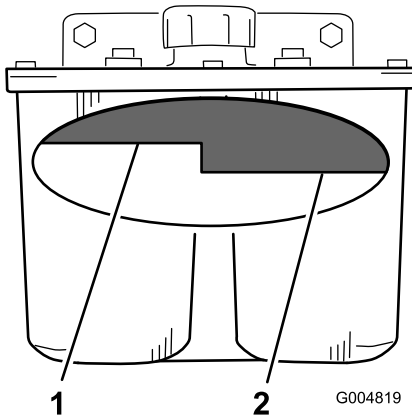

Figure 94
- Clean the area around the filler neck of the hydraulic tank (Figure 94).
- Remove the cap from the filler neck and look inside to check if there is fluid in the reservoir (Figure 94).
Note: The fluid level should be to the top of the hot level of the baffle, when the fluid is hot (Figure 94).